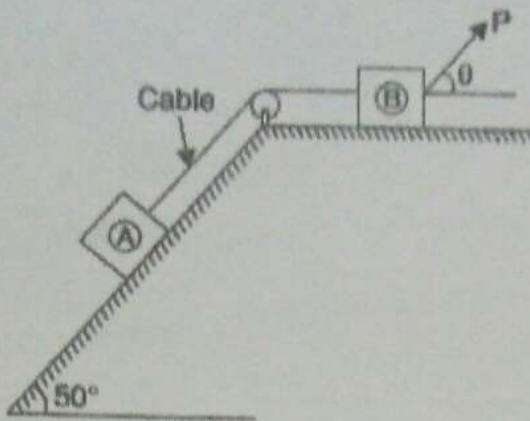

Fig. 2.
- b. A system consisting of two blocks connected by a cable is as shown in Fig.2. The masses of the block A and block B are 7.5 kg and 25 kg respectively. Determine the magnitude of minimum force and its inclination with reference to the horizontal, to be applied on block B. The block has impending motion towards the right. Take the coefficient of friction at all contact surfaces to be 0.28.